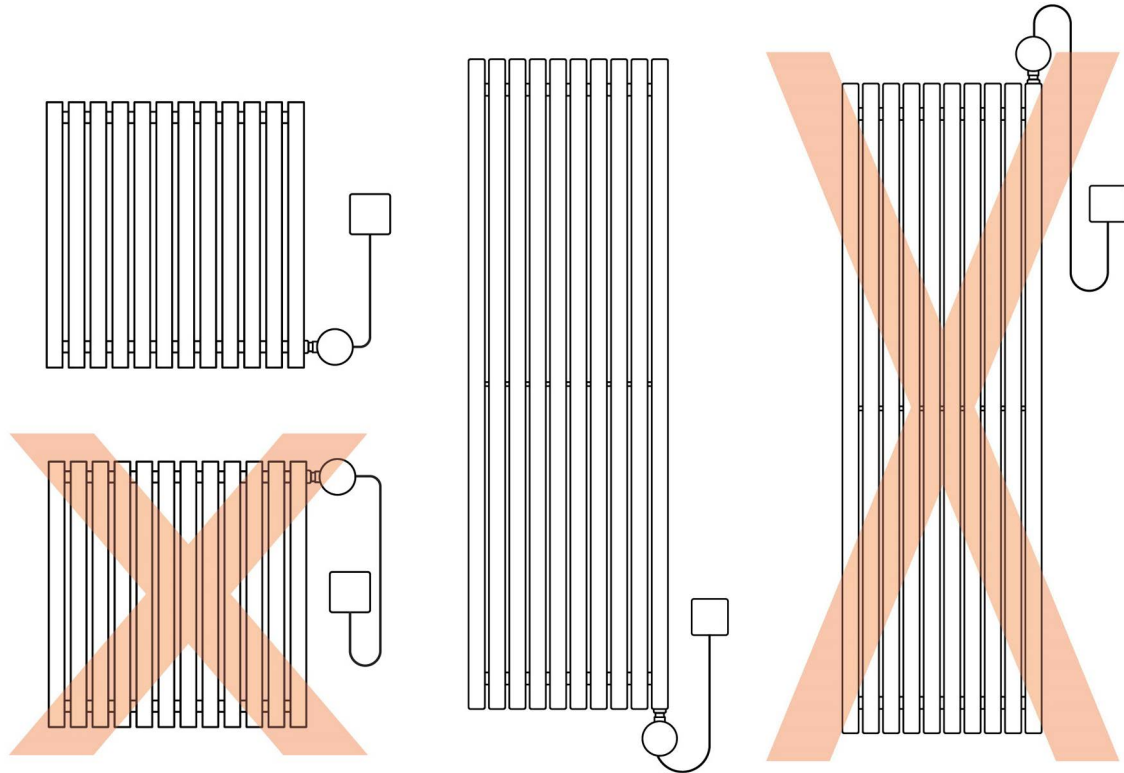

Figure 1 | Correct vs incorrect installation orientations
2. Identify the inlet where the element will be fitted in the radiator or towel rail. For vertical models, the element is fitted vertically, entering at the bottom of the right-hand vertical strut. For horizontal models, the element is fitted horizontally, entering sideways through the lowest horizontal strut. Never fit the element at the top of a radiator or towel rail (see **Figure 1**).